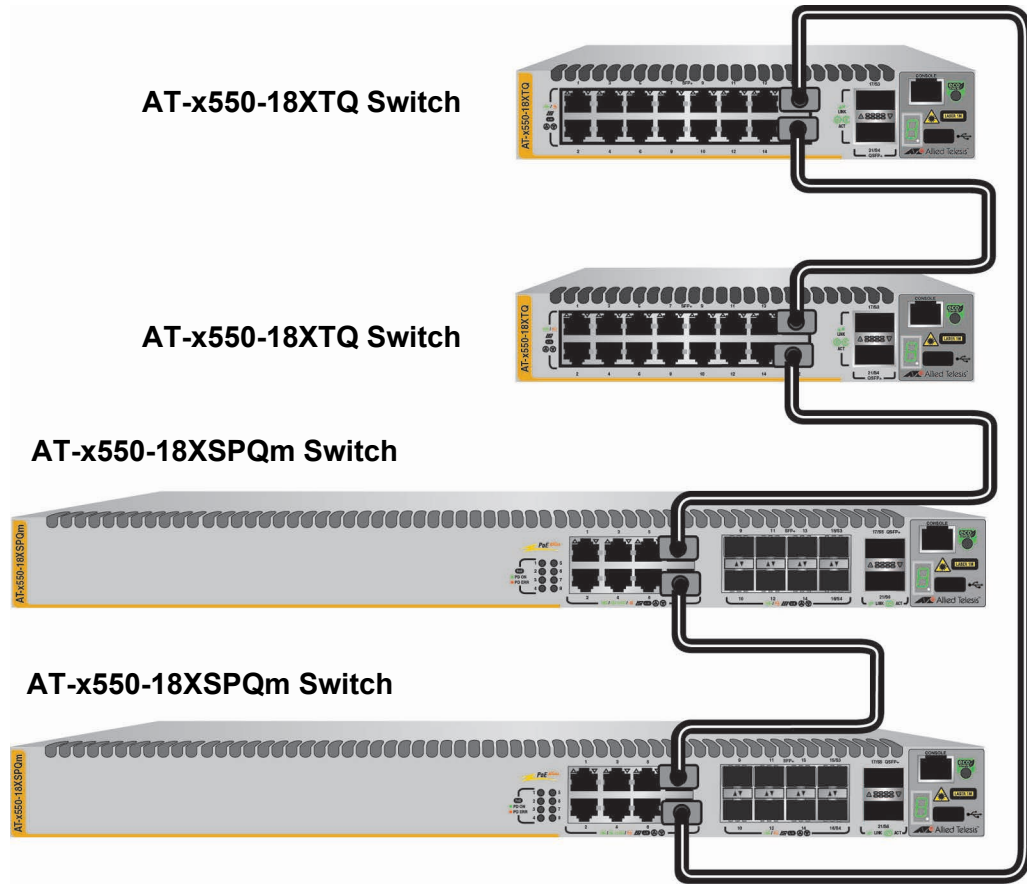

Figure 21. Example of a 10Gbps Stack Trunk with AT-x550-18XTQ and AT-x550-18XSPQm Switches
- Figure 21 is an example of a 10Gbps stack of AT-x550-18XTQ and AT-x550-18XSPQm Switches.